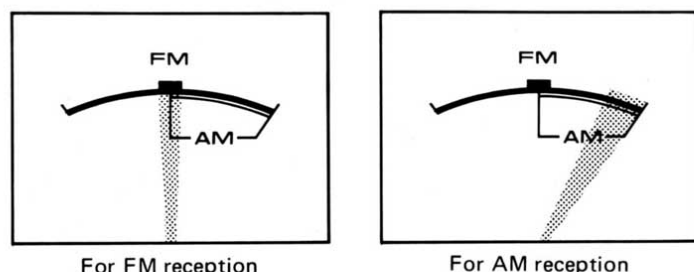

Fig. 10
3. Turn the TUNING knob to select your station. Best reception is obtained when the AM/FM TUNING meter needle is exactly in the center (see Fig. 10).
2. Turn the TUNING knob to select your station. Best reception is obtained when the AM/FM TUNING meter needle deflects to the extreme right (see Fig. 10).